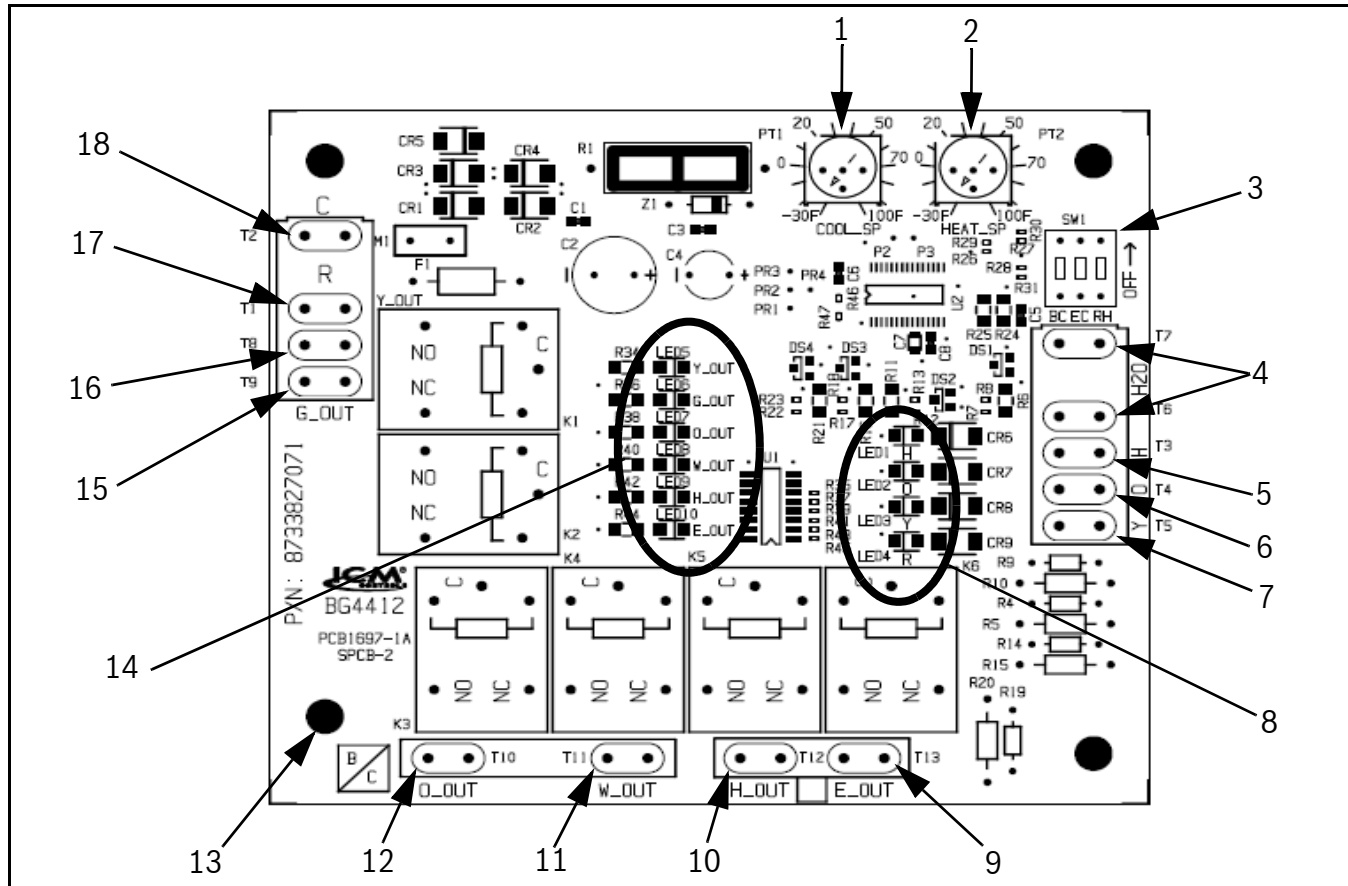

Fig. 23 Option Card
- ▶ Validates that Operating Mode Dip Switch SW1 (→Refer to Fig. 23) position "2" is in the "ON" position.
- Units with Option Card: The Cool Set Point Potentiometer (→Refer to Fig. 23).
- ▶ Validate that Operating Mode Dip Switch SW1 (→ Refer to Fig. 23) position “3” is in the “ON” position.
- ▶ The heat pump will run in Hot Gas Reheat mode ONLY when cooling demand is satisfied and the unit thermostat calls for humidity (H) when the level of humidity is above the desired set point specified either by the:
- ▶ Validates that Operating Mode Dip Switch SW1 (→ Refer to Fig. 23) position “1” is in the “ON” position.
- (For Units with Option Card)—The Cool Set Point Potentiometer (→ Refer to Fig. 23), or